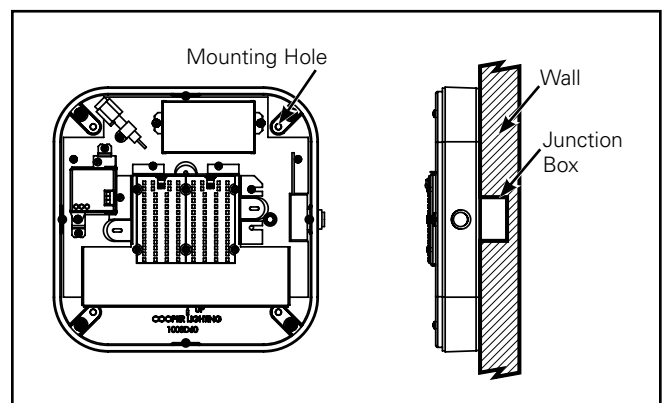

Figure 6. Shallow Cast Unit Installation
- Center cast housing on flat smooth ceiling or wall over junction box. Use cast housing as a template to layout fastener locations. (Figure 6.)